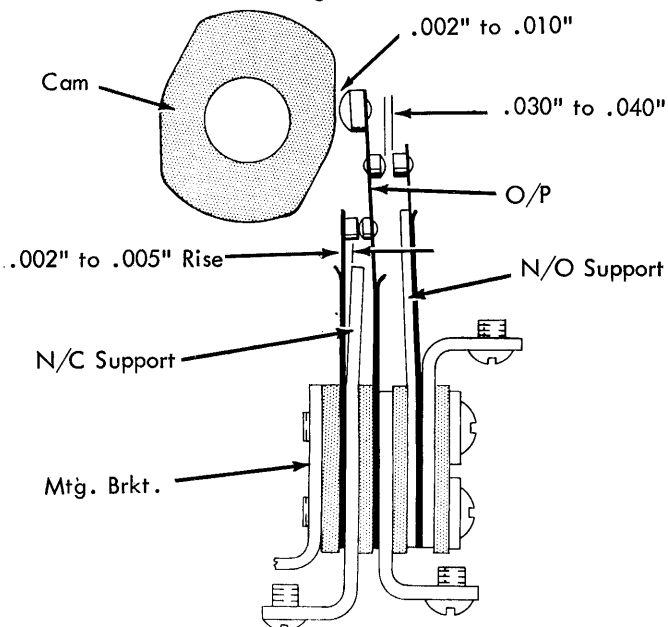

FIGURE 43. Print Feedback Contacts
- Form the N/C supports so that the O/P's lift the N/C contacts .002" to .005" from the N/C supports (Fig. 43).
- Position the contact mounting bracket so that the O/P's clear the cam (at the low point) .002" to .010" (Fig. 43).